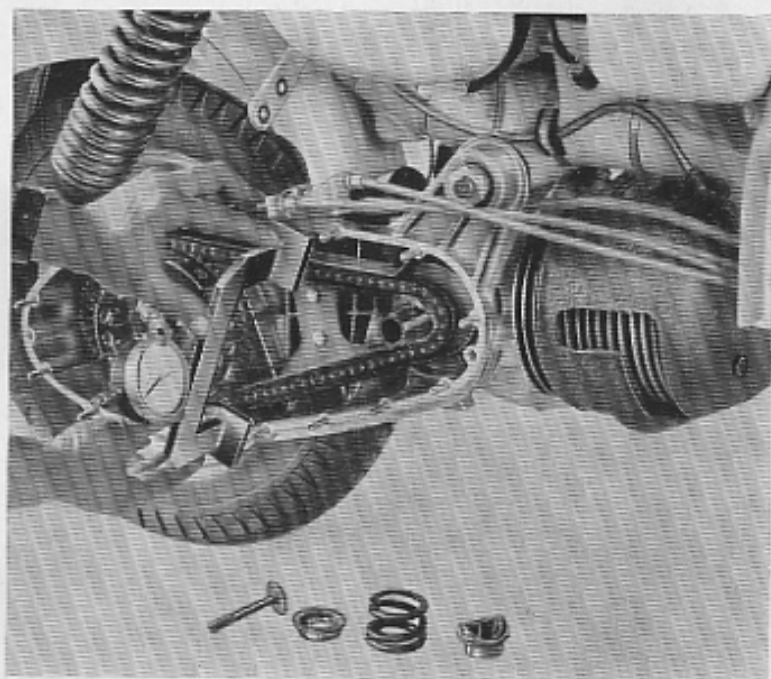

Fig. 28
- (b) Then measure the distance to the main sprocket on rear axle. See Fig. 28. The difference between the two readings should be between  $\pm 0.05\text{mm}$